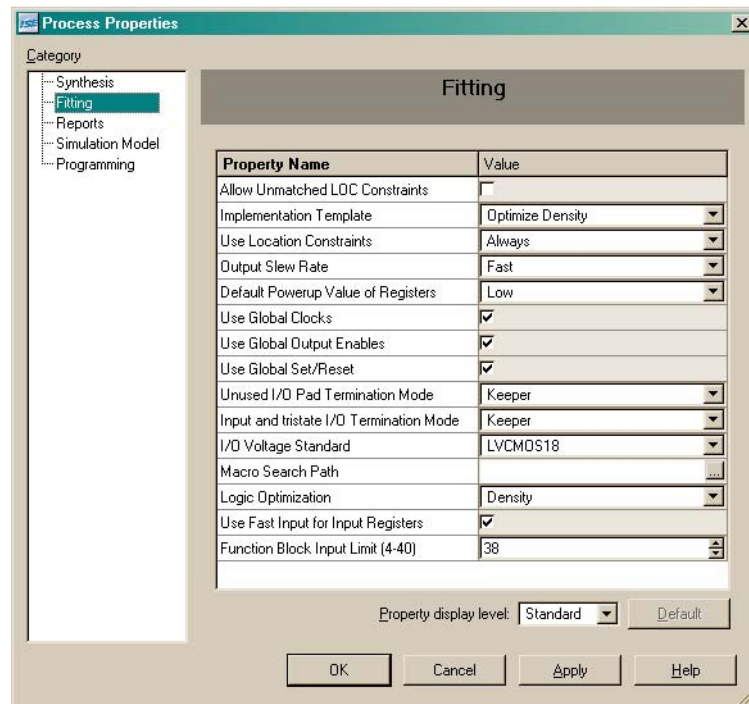

Figure 5-13: Process Properties – Implement Design
2. A right-click on **Implement Design** allows you to edit the **Properties** for each particular step. Notice that the **Fitting** category is selected in Figure 5-13
The **Help** button will explain the operation of each field. You can set the default I/O standard under the **Fitting** category of the **Process Properties** window, as shown in Figure 5-13.